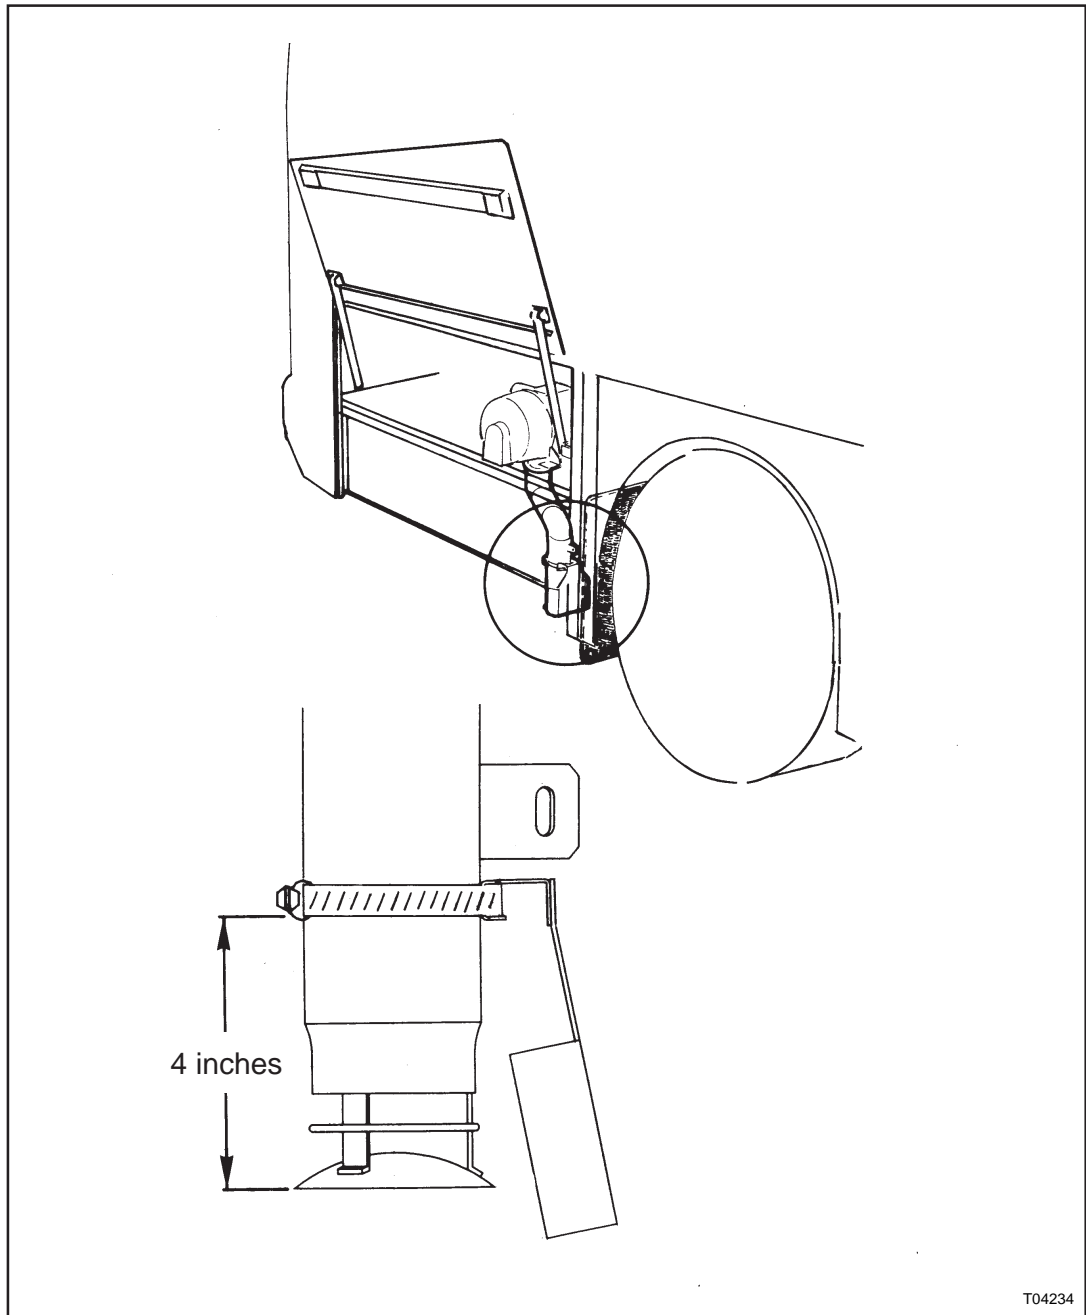

Figure 2: Position of heat shield
6. Move clamp and heat shield further upwards and tighten the clamp for a loose fit over the exhaust pipe. Position the heat shield between the mud guard and the exhaust pipe (refer to figure 2). Check the height of the heat shield.